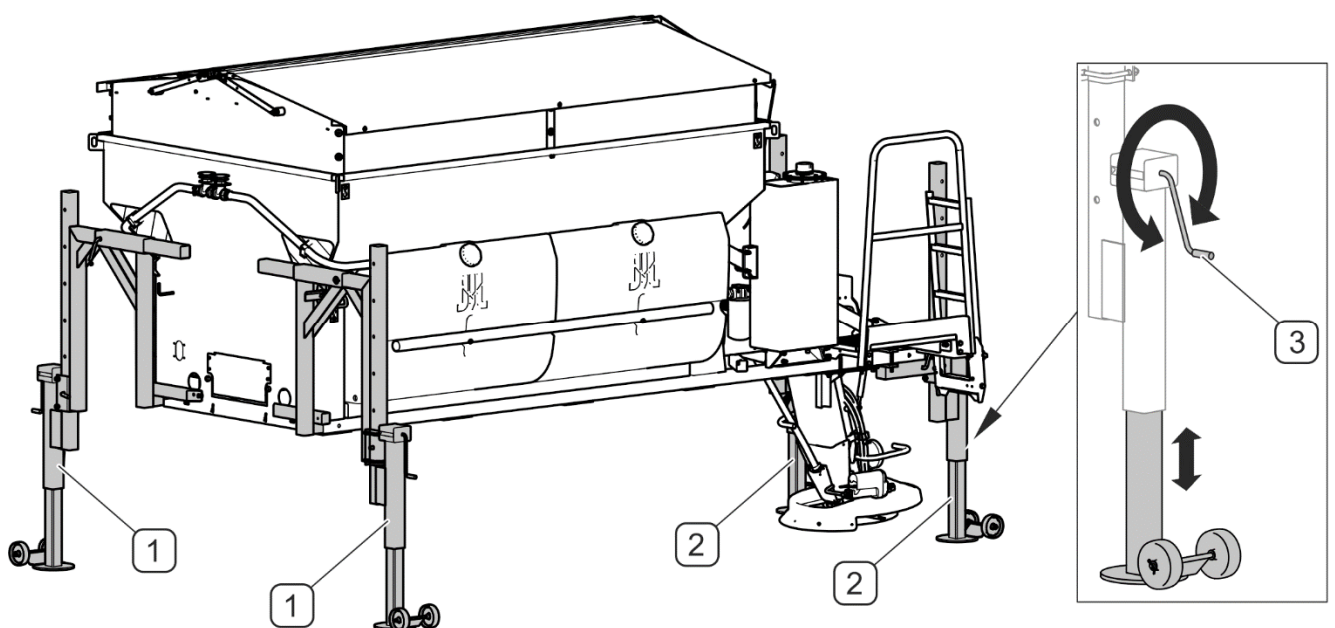

FIGURE 4.5 Parking stands (option)
(1) - front parking stand; (2) - rear parking stand; (3) - height adjustment mechanism
If the sand spreader is equipped with adjustable parking stands (FIGURE 4.5) , adjust the stands properly depending on the height of the carrying vehicle's load platform. Adjustments can be made using crank mechanism (3).
- Lower the machine onto the carrying vehicle's load platform by rising successively the parking stands by means of height adjustment mechanism (3) (FIGURE 4.5).